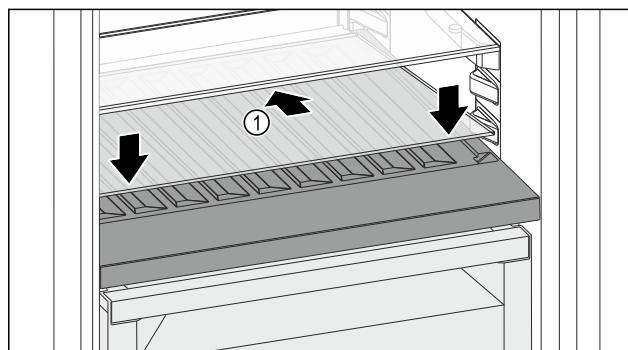

Fig. 110
- Place the glass shelf Fig. 110 (1) at an angle, tilted back and down.
- Lower the glass shelf Fig. 110 (1) at the front.